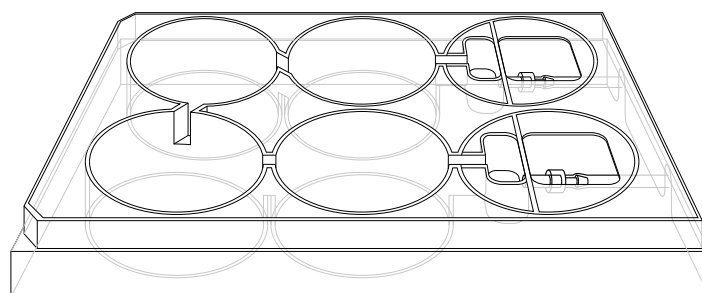

Figure 2. Design of the Alvetex Perfusion Plate. Schematic diagram showing overall plan and layout of the Perfusion Plate.
The design of the Alvetex Perfusion Plate is based on a typical 6-well multi-welled culture plate footprint commonly used in the laboratory (**Figures 2** and **3**). The plate is manufactured from non-tissue culture treated polystyrene. It is supplied in a blister pack and is sterile. The plate includes a lid and Leur-lock fittings for tube attachment. As can be seen, two of the wells have been sacrificed to create space for sampling wells, the Leur-lock fittings and attachment of tubing (**Figure 3B**). There are four standard wells in the plate in which cell culture can be performed. Each well is linked to the next by a channel
- Using The Watson Marlow 205S/CA peristaltic pump, circulate the medium in the appropriate direction around the circuit (see **Figures 2, 3, 6**). Initially this